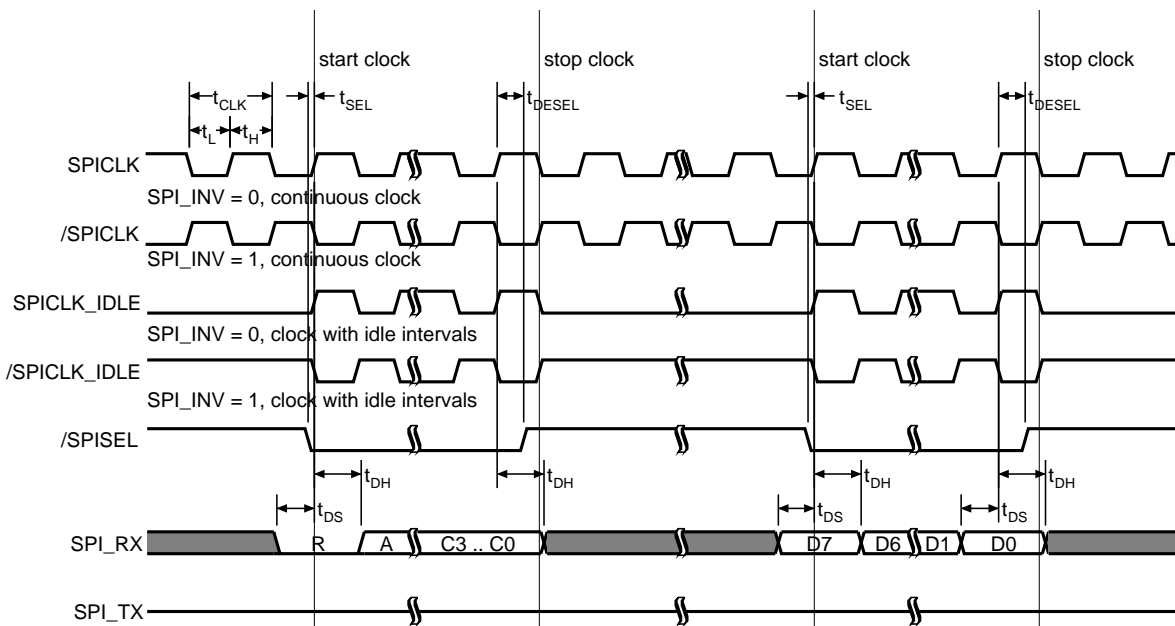
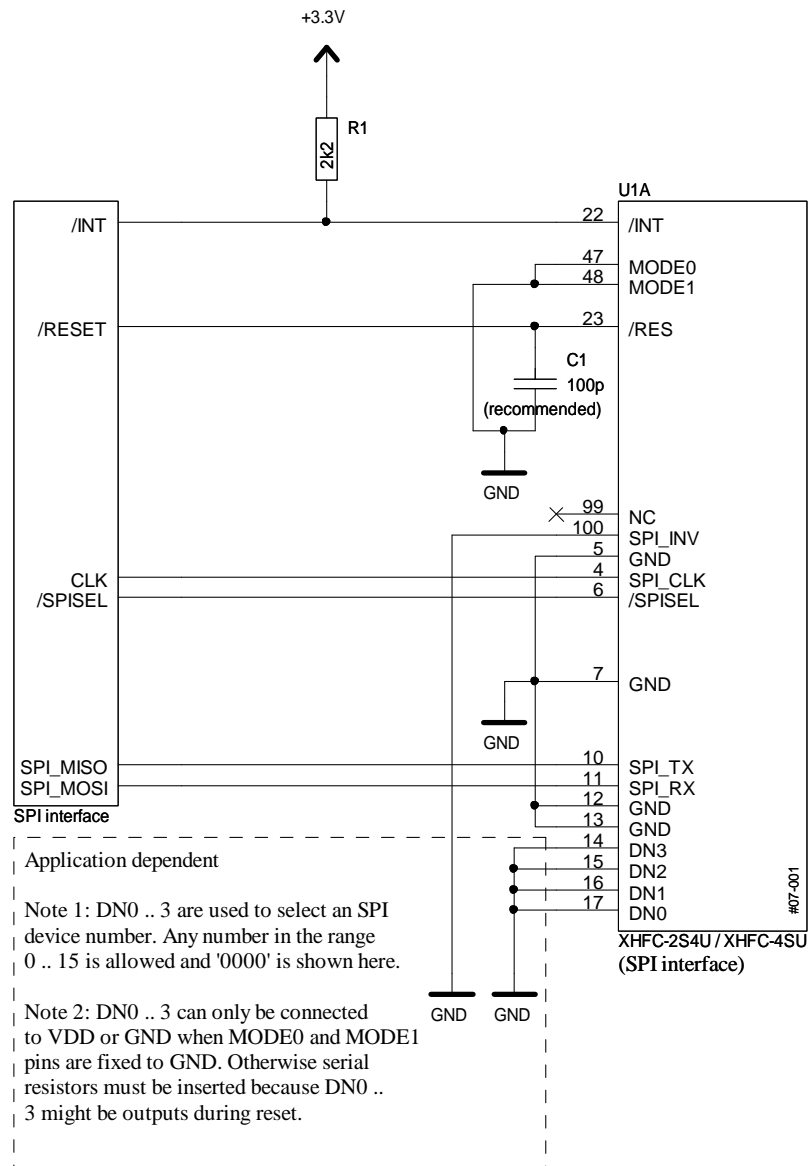

Figure 2.20: SPI timing diagram for data write transactions
**Figure 2.21:** SPI timing diagram for data read transactions (see Figure 2.20 for additional clock signals  $/SPICLK$ ,  $SPICLK\_IDLE$  and  $/SPICLK\_IDLE$ )
Figure 2.20 shows the timing diagram for data write transactions (data from master to slave). Four different variations of the SPI clock are shown. SPI clock can be inverted with  $SPI\_INV = '1'$ . Further, idle intervals are allowed during non-selected phases where  $/SPISEL = '1'$ . During idle intervals, SPI clock must be low for  $SPI\_INV = '0'$  and it must be high otherwise.
When the SPI access is splitted by the SPI master, the rising edge of  $/SPISEL$  is required to be  $t_{DESEL} \geq 2\text{ns}$  after the sampling time at the earliest. When clock idle intervals are used, it is necessary to have at least one clock edge after the last sample edge (marked with 'stop clock' in Figure 2.20). This is important to terminate the access internally.
The timing diagram for data read transactions (data from slave to master) is shown in Figure 2.21. The same different variations of the SPI clock which are shown in Figure 2.20 are valid for data read
**Table 2.17:** Symbols of write access in Figure 2.20
**Table 2.18:** Symbols of read access in Figure 2.21